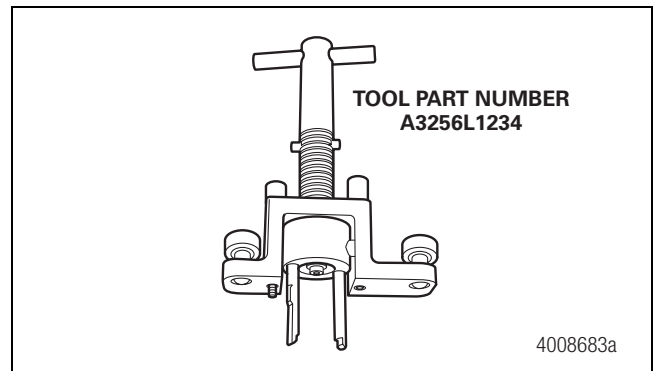

Figure 14
3. Install the spring compression tool over the DCDL bore and finger tighten the retaining screws. Tighten the tool handle down until it bottoms to compress the spring. Figure 14.